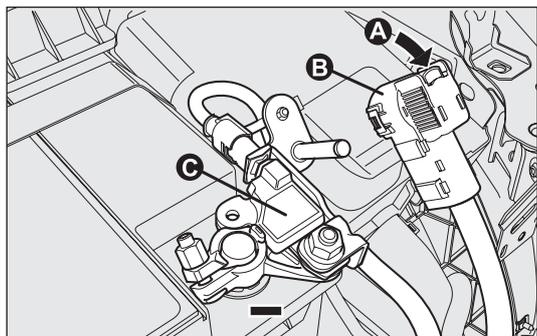

fig. 114
- press the button A-fig. 114 to remove the connector B from the sensor C monitoring the battery conditions (the latter is on the negative pole of the battery).